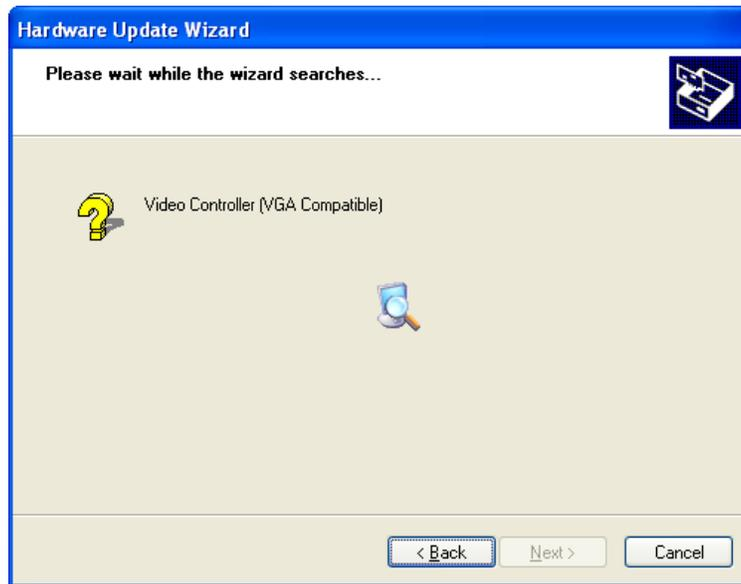

Figure 6-11: Hardware Update Wizard Search Window
Step 18: The following window (**Figure 6-11**) appears as the OS searches for the driver.